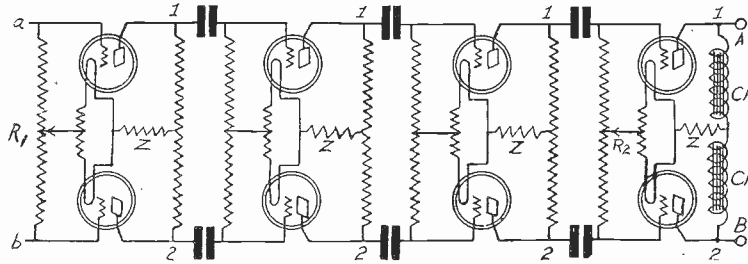

FIG. 570
(2)—See Fig. 570. For an experimental circuit the stopping condensers may have any value from .006 to .5 mfd. The grid resistors may have any value from .5 to 2 megohms. The plate resistors may lie between .1 and .5 megohms. Corresponding parts in the two sides must be identical—tubes, stopping condensers and resistors. There should be means for balancing the circuit as at R1 and R2. The chokes should be about 100 henrys. The Zs represent the impedance of the plate voltage source.